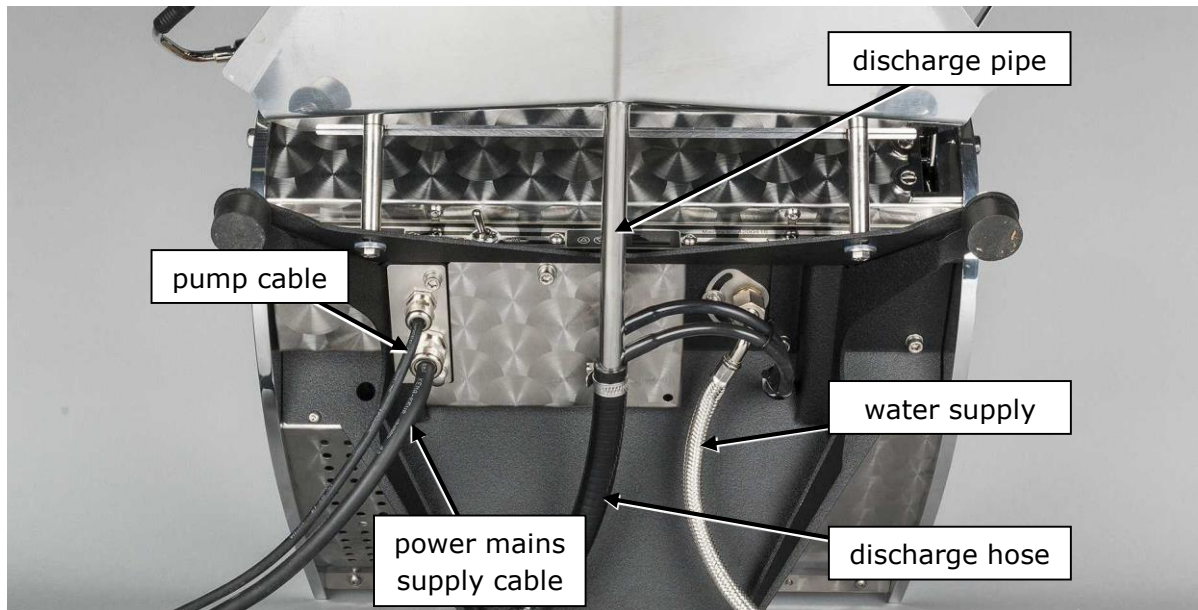

Figure I 3. Speedster is tilted on its back, water supply and discharge hose are connected.
6. Hold the loose end of the high pressure hose in a bucket and open the tap slowly. Flush the water treatment system according to manufacturer's instruction. Then flush the pump for a minute (the pump-motor does not have to run). Check if the water does not show a strange colour or smell. Close the tap, connect the hose to the fitting at the bottom of the Speedster with a 20 mm spanner. The Speedster may be tilted in such a way that it rests on the two hind-legs and the back of the machine, or use (wooden) blocks under the feet see *Figure I 3*.
1. Position the stainless steel hose clamp on one end of the discharge hose. Slide the end of the hose over the discharge-pipe of the drip tray (see *Figure I 3*) and tighten the hose clamp.
2. The thinner electrical cable attached to the Speedster is the pump cable (see *Figure I 3*) and has a special type of connector. Attach the pump cable to the pump motor using the special connectors.